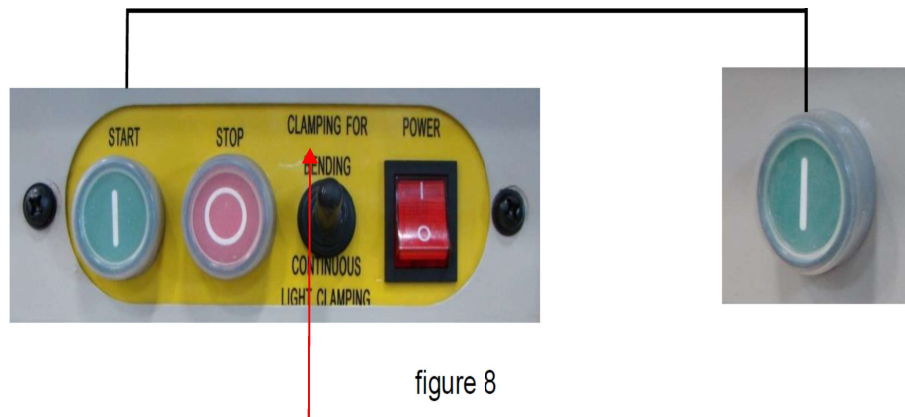

figure 8
6. To apply the pre-clamping force, step down on the footswitch or press either of the GREEN start switches. (See fig. 8 below) Now that the piece part is held in place, pull up on the bending leaf handles. This will activate the micro-switch which tells the electro-magnet to apply full clamping force. Continue pulling up on the handles until the desired bend angle is made.